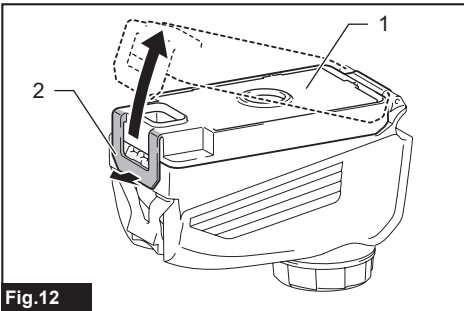

Fig.12
► Fig.12: 1. Dust case cover 2. Lock tab